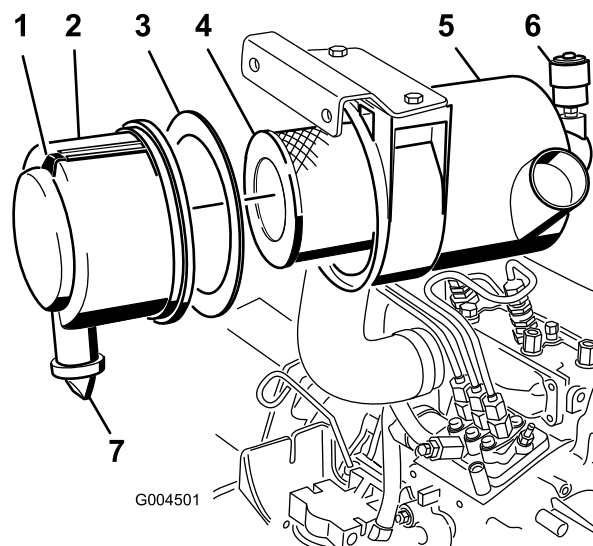

Figure 41
- Service the air cleaner filter when the air cleaner indicator (Figure 41) shows red or every 400 hours (more frequently in extremely dusty or dirty conditions). Do not over service the air filter.
- Pull the latch outward and rotate the air-cleaner cover counter-clockwise (Figure 41).
- Remove the cover from the air-cleaner body (Figure 41).
4. Remove and replace the primary filter (Figure 41).
6. Ensure that the foam gasket is in place in the cover and that it is not torn or damaged (Figure 41).
- A. Remove the rubber outlet valve from the cover (Figure 41).
10. Reset the indicator (Figure 41) if showing red.